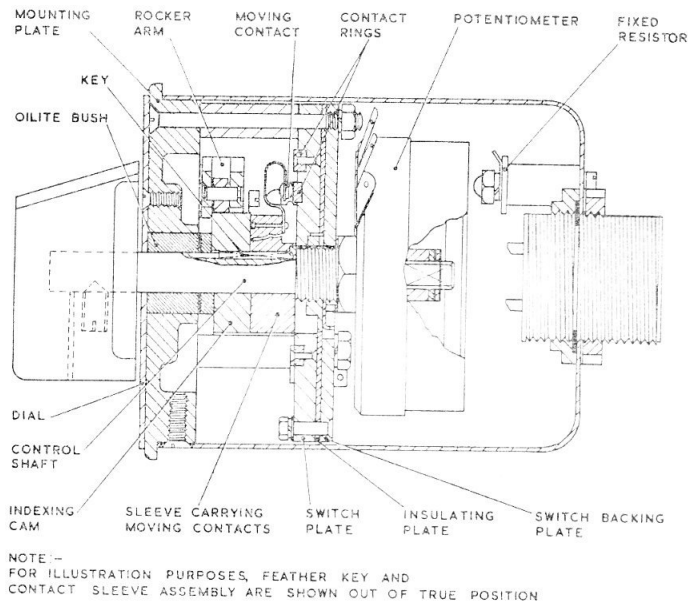
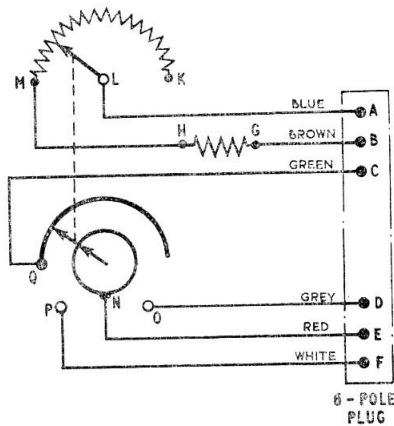

Fig. 1. Sectional view of temperature selector, Type FHK, automatic and manual control
Fig. 2. Temperature selector, Type FHK, automatic & manual, circuit diagram
2. Temperature selectors in this group are similar in construction to the typical selector described in the main chapter, except that they have in addition contact rings and contacts (fig. 1), and a 6-pole in lieu of a 2-pole Mk. 4 plug (fig. 2). Each selector weighs approximately $9\frac{1}{2}$ oz., and the overall dimensions are $2\frac{3}{8}$ in. \times $2\frac{3}{8}$ in. \times 4 in. long.